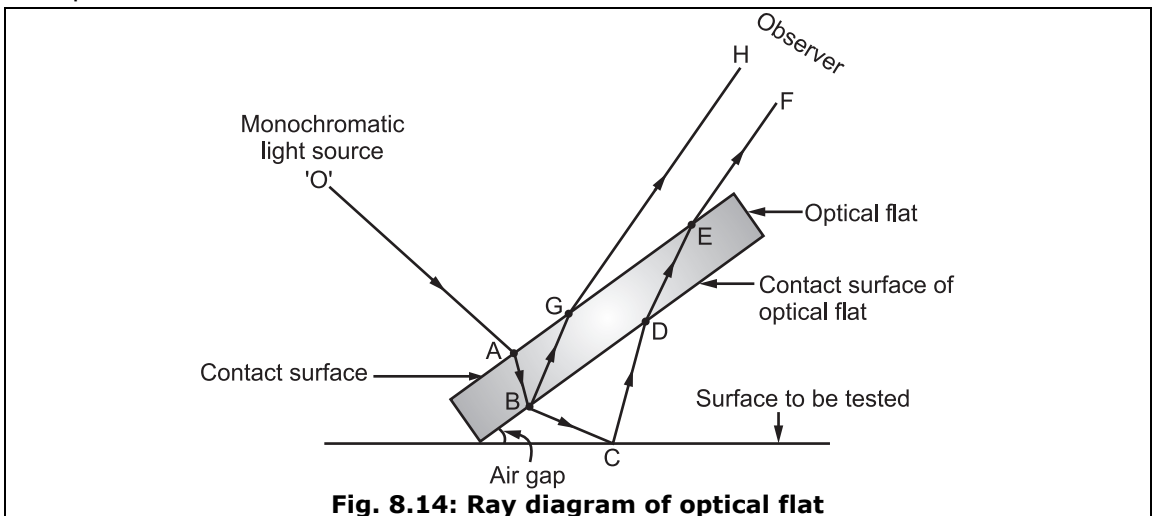

Fig. 8.14: Ray diagram of optical flat
- Fig. 8.14 shows the optical ray diagram of optical flat. Initially, optical flat is kept on the surface to be tested and monochromatic light is made to incident on optical flat.